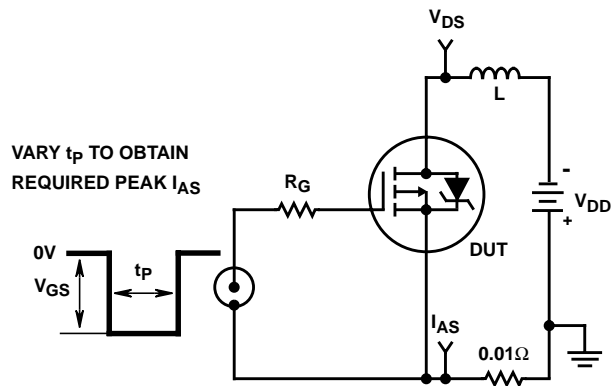

FIGURE 15. UNCLAMPED ENERGY TEST CIRCUIT
4. $V_{DD} = 50\text{V}$, starting $T_J = 25^\circ\text{C}$, $L = 17.75\text{mH}$, $R_G = 25\Omega$, peak $I_{AS} = 6.5\text{A}$ (Figures 15, 16).